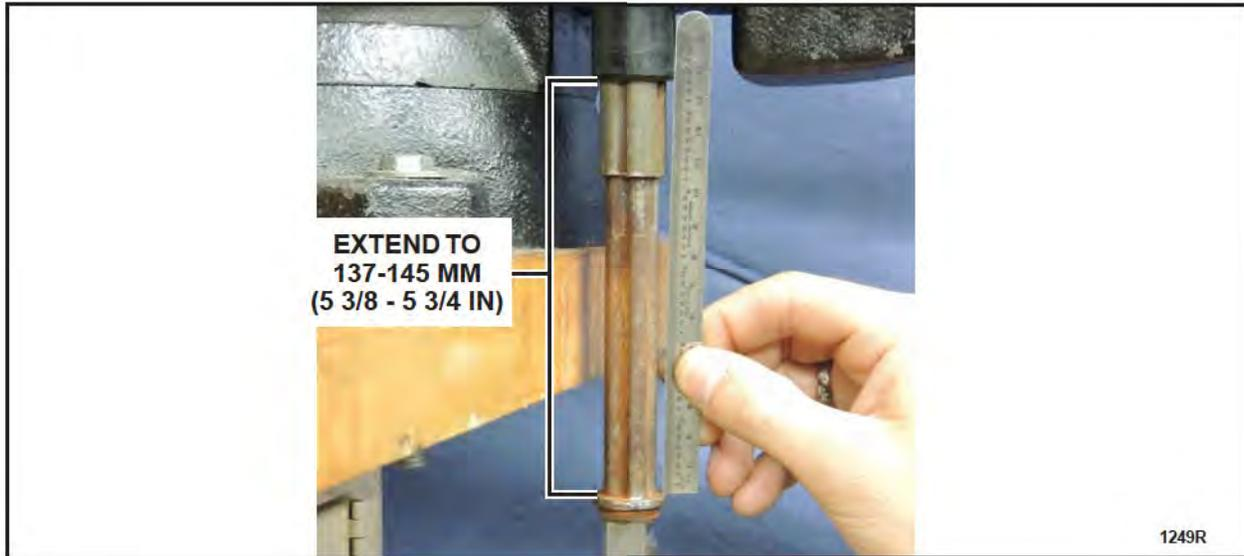

**FIGURE 5**
6. Loosely position the upper steering shaft into a vise, with the U-joint facing upwards and resting on top of the vise. See Figure 5.